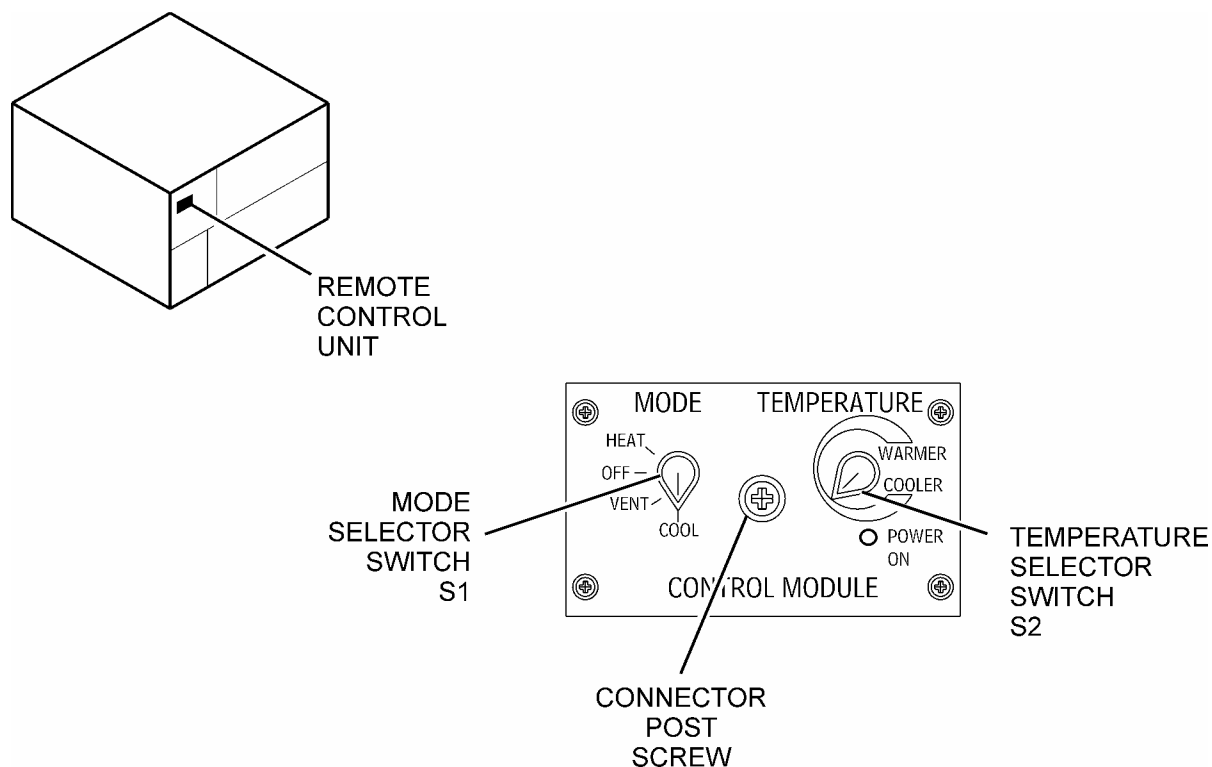

Figure 1. Control Module – Front Panel
1. Loosen connector post screw counterclockwise until remote control module is freed from unit. See figure 1.